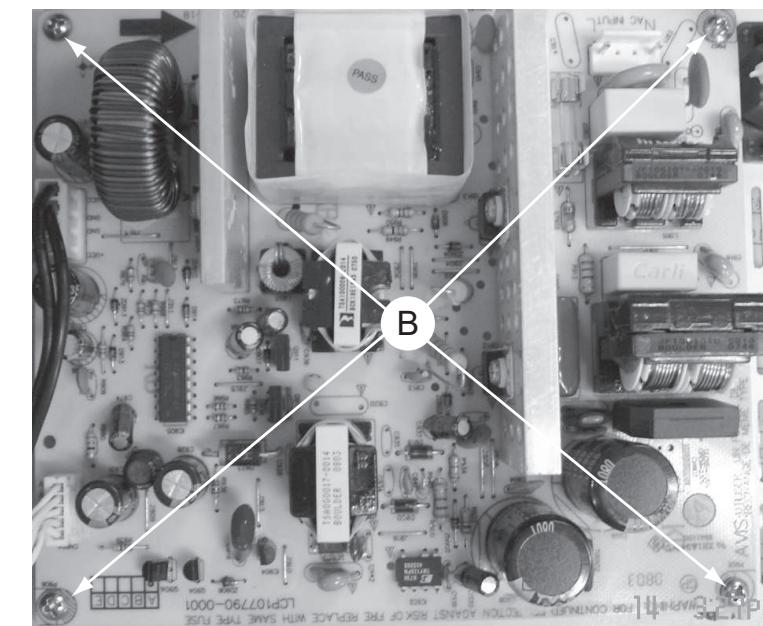

Figure 2
- 1) Loosen 4 screws "B" on the top of power board as shown in figure 2.